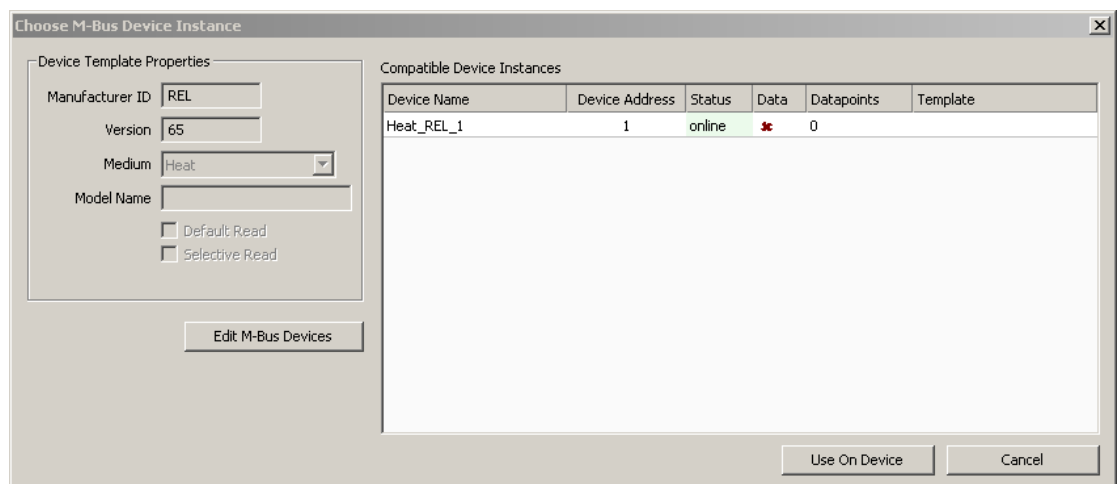

Figure 140: Use on Device dialog.
3. Either press on the **Use on Device** button  or right-click and select **Use on Device**. This opens the **M-Bus Configure Device For Use** dialog shown in Figure 140.